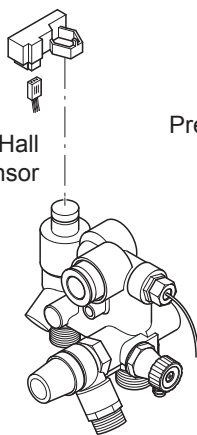

Fig. 17
6. Disconnect the wiring from the Hall Effect Sensor, DHW NTC and Water Pressure Switch (Figs. 17 & 18). Retain the Hall Effect Sensor.
8. Connect the harness terminals to the Hall Effect Sensor, DHW NTC and Water Pressure Switch (see Figs. 17 & 18). Refit the Hall Effect Sensor.